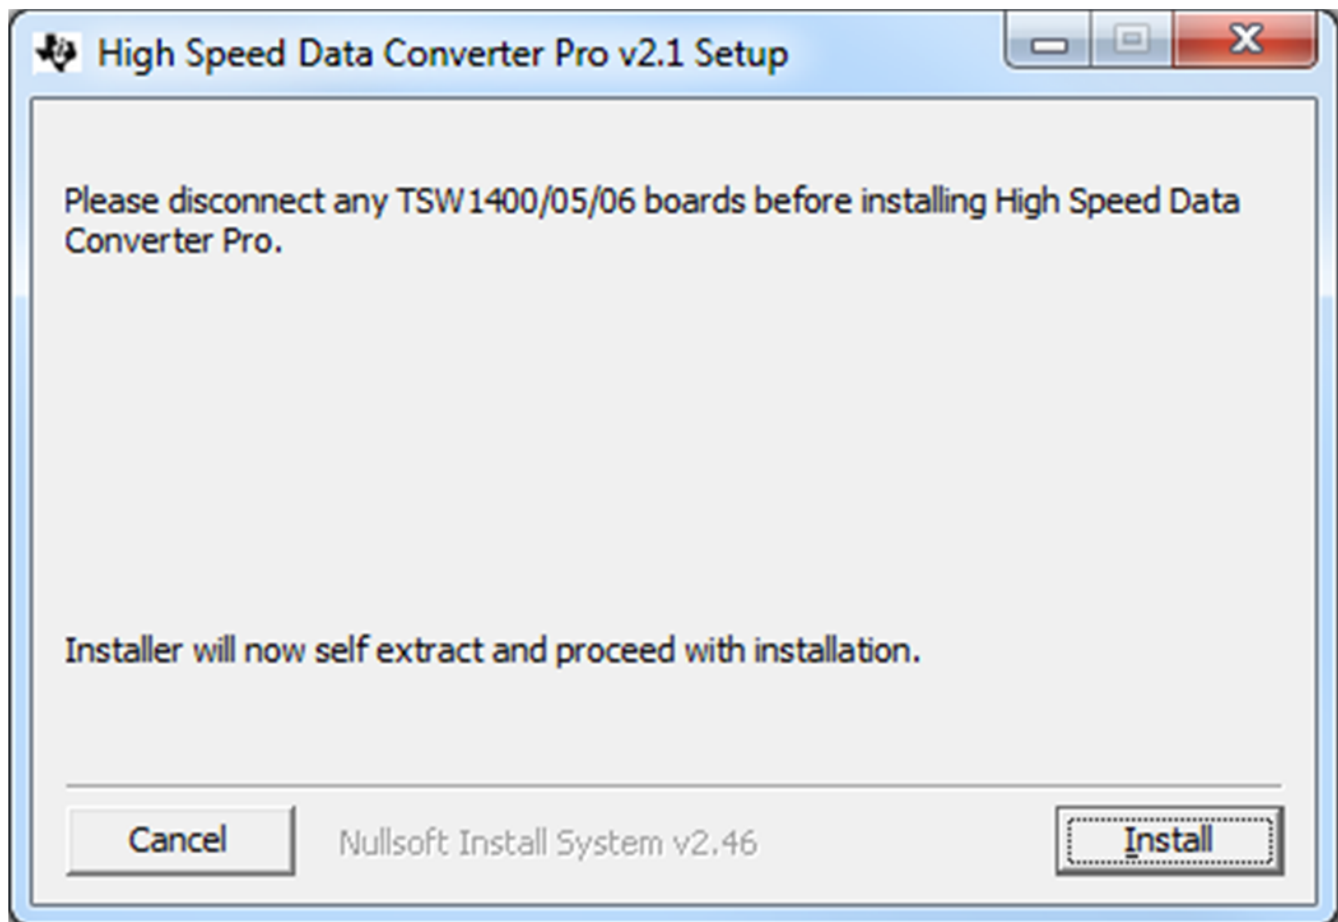

Figure 32. HSDCPro Install (Begin)
- Unzip the saved folder and run the installer executable to obtain the pop-up shown in Figure 32.